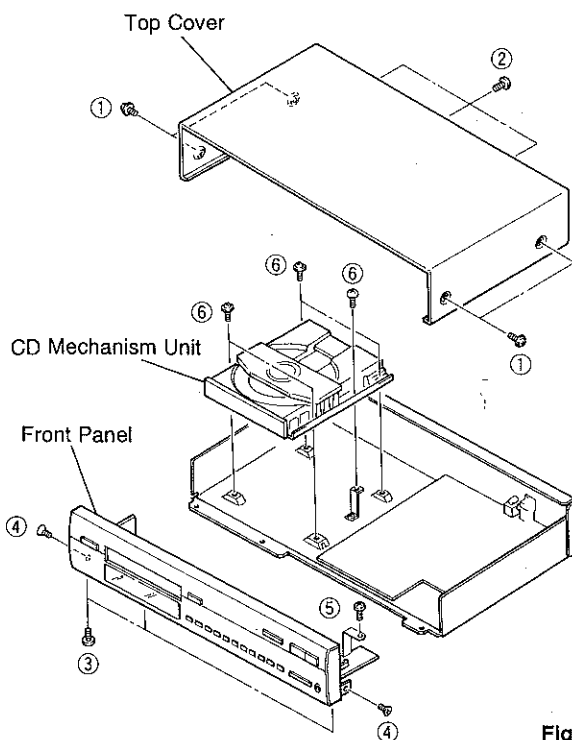

Fig. 1
- a. Remove 4 screws (①) and 3 screws (②) in Fig. 1.
- b. Remove 3 screws (③), 2 screws (④) and 1 screw (⑤) in Fig. 1.
- b. Remove 5 screws (⑥) in Fig. 1.